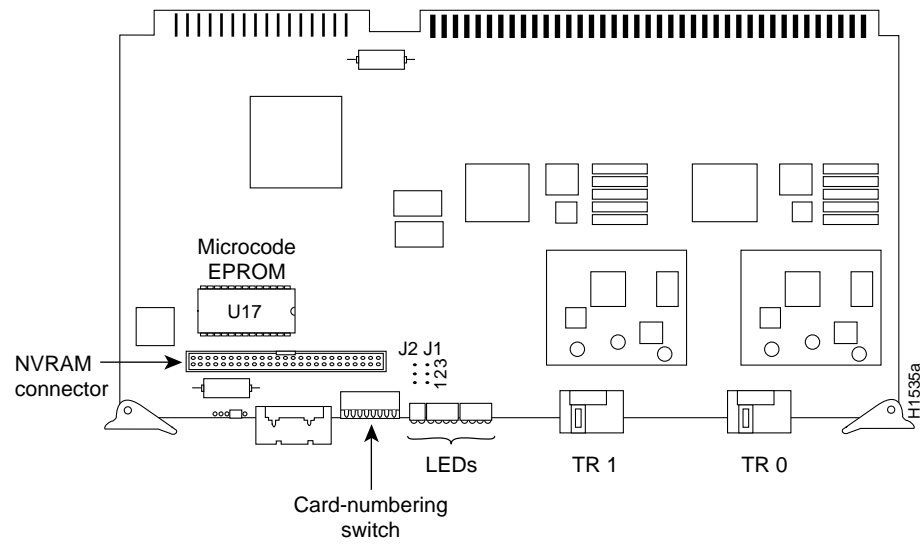

Figure 5-16 CSC-2R Token Ring Interface Card—Component-Side View
- CSC-2R Token Ring interface card, Figure 5-16